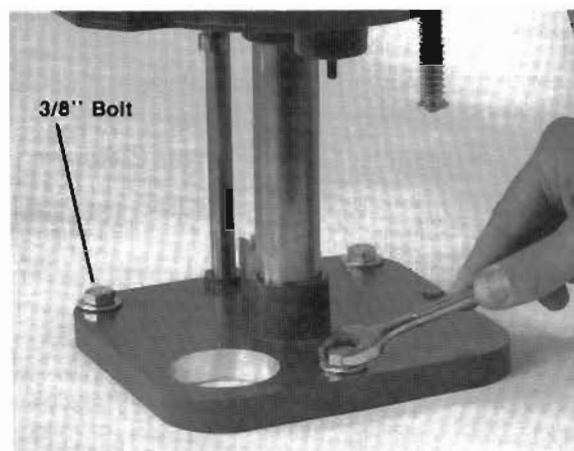

Fig. 1
**Figure 1** - Select an area on your reloading bench for set-up. Keep in mind you will need space for the press and reloading components. The Apex™ is designed to work equally well on the edge of the bench or set back, since the handle doesn't require any additional clearance on the down stroke. Mark the mounting hole positions and drill three 3/8" holes into your bench top. Use 3 mounting bolts long enough to each hold two washers and locking nut, going through the bench top and the Apex base.